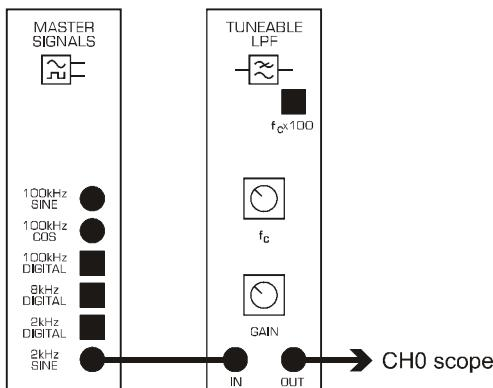

Figure 17: "adjust_the_TLPF" wiring diagram
1. Use patching cords to wire up DATEx blocks according to the wiring diagram in Figure 17.